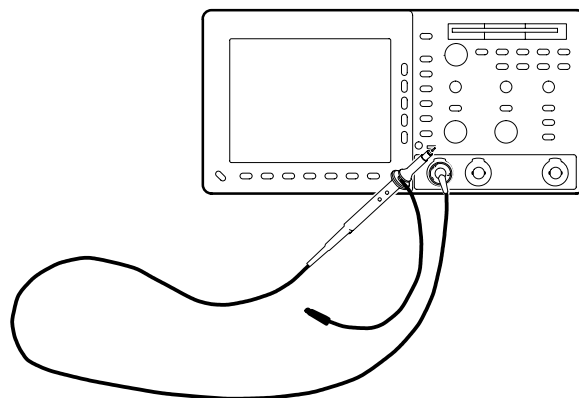

Figure 1–4: Hookup for functional test
2. Check the fuse to be sure it is the proper type and rating (Figure 1–2). TDS 300 Series oscilloscopes are shipped with a UL-approved fuse installed.
3. Connect the proper power cord from the rear-panel power connector (Figure 1–2) to the power system. Use the power cord clamp to secure the cord to the rear panel.
5. Press the ON/STBY button to power up the oscilloscope (see Figure 1–1).
7. Check that the word Pass appears in the main menu under the Voltage Reference, Timing, and Ext Trig menu labels. (See Figure 1–3.) If any of the labels read Fail, the oscilloscope has failed the self test. Contact your Tektronix representative for assistance.
1. Install the probe on CH 1. Connect the probe tip to PROBE COMP on the front panel; leave the probe ground unconnected. (See Figure 1–4.)